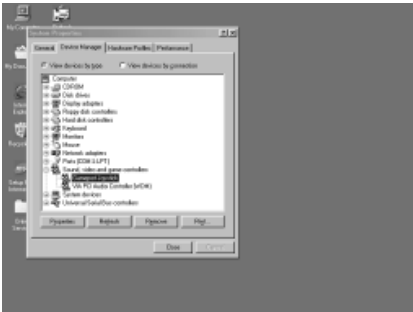

Figure 14
- Double click [System] → Click [Device Manager] → Click "+" to the left of the [Display adapters], the screen will appear Figure 14. Highlight the "Audio Driver For Win95/98" driver is installed successfully.